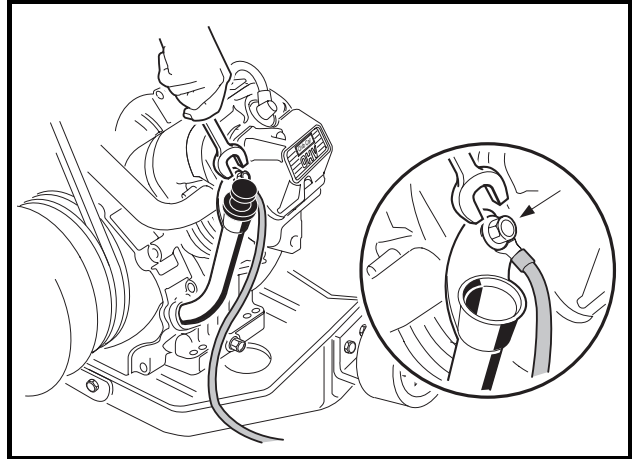

Figure 19-46 Engine Ground and Retaining Nut
23. Attach the ground wire to the mounting screw on the oil filler tube mounting bracket and tighten to 50 in-lb (5.7 N·m) (**Figure 19-46, Page 19-17**).